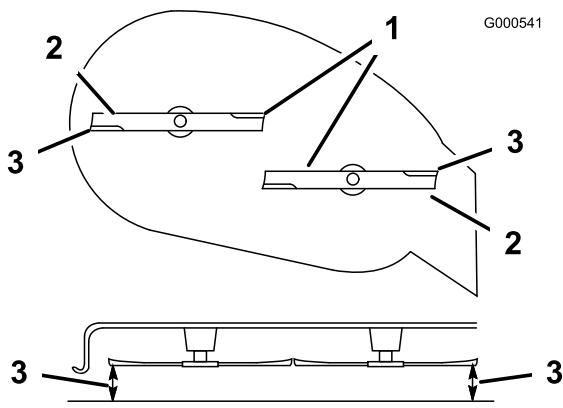

Figure 41
5. Carefully rotate the blade(s) side to side (Figure 41). If both measurements are not within 3/16 inch (5 mm), an adjustment is required; continue with this procedure.
6. Measure between the outside cutting edges and the flat surface (Figure 41). If both measurements are not within 3/16 inch (5 mm), an adjustment is required; continue with this procedure.